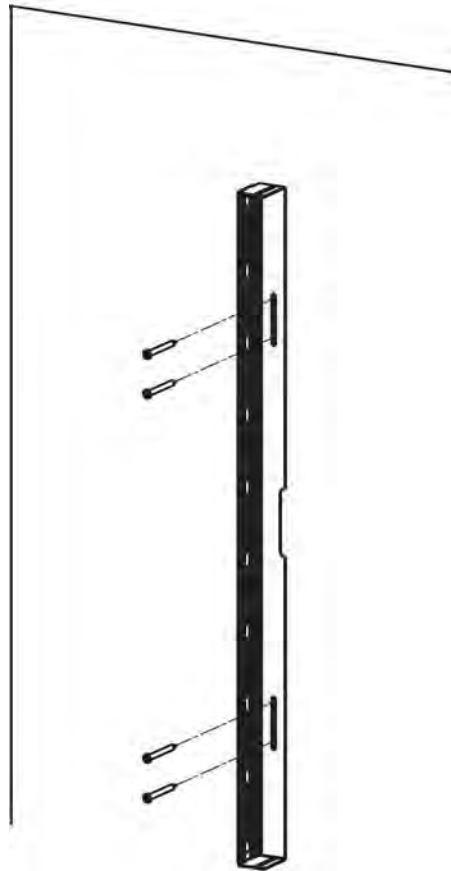

FIGURE 14
3. The LCR DM Brackets have two slots cut through the rear of the part which will function as a surface mount bracket. Refer to **FIGURE 14.**